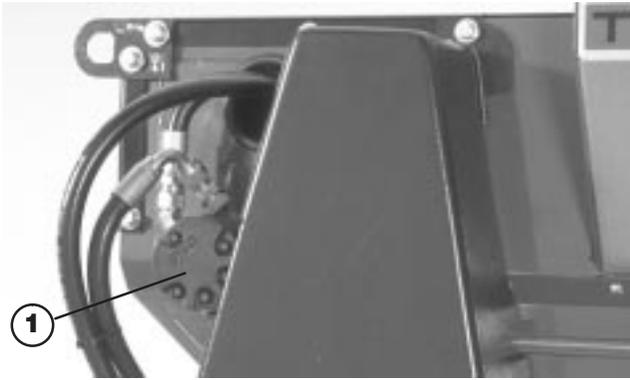

Figure 20
2. Loosen nuts securing brush motor (Fig. 20) to left side of machine.